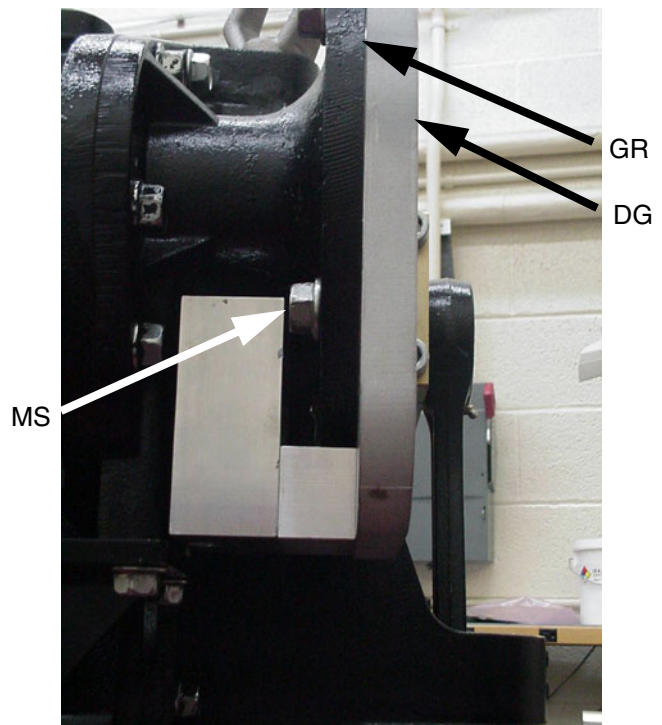

FIG. 2. Install the Drill Guide
1. See FIG. 2. Align the holes in the drill guide (DG) with the holes in the gear reducer flange (GR). Orient the guide as shown, then install using the motor mounting screws (MS).